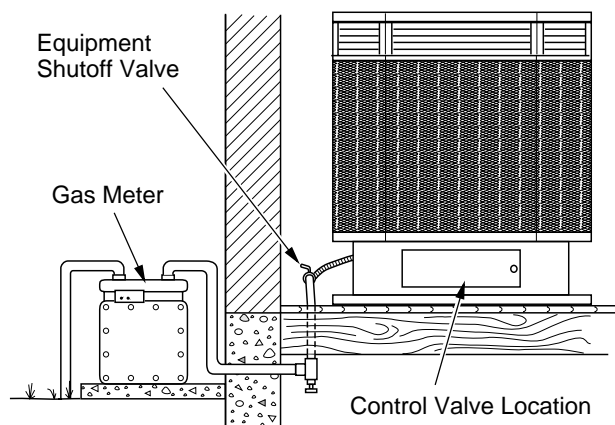

Figure 8 - Checking Gas Joints
3. Check all joints from gas meter to equipment shutoff valve (see Figure 8). Apply a noncorrosive leak detection fluid to gas joints. Bubbles forming show a leak.
4. Check all joints from equipment shutoff valve to control valve (see Figure 8). Apply a noncorrosive leak detection fluid to gas joints. Bubbles forming show a leak.